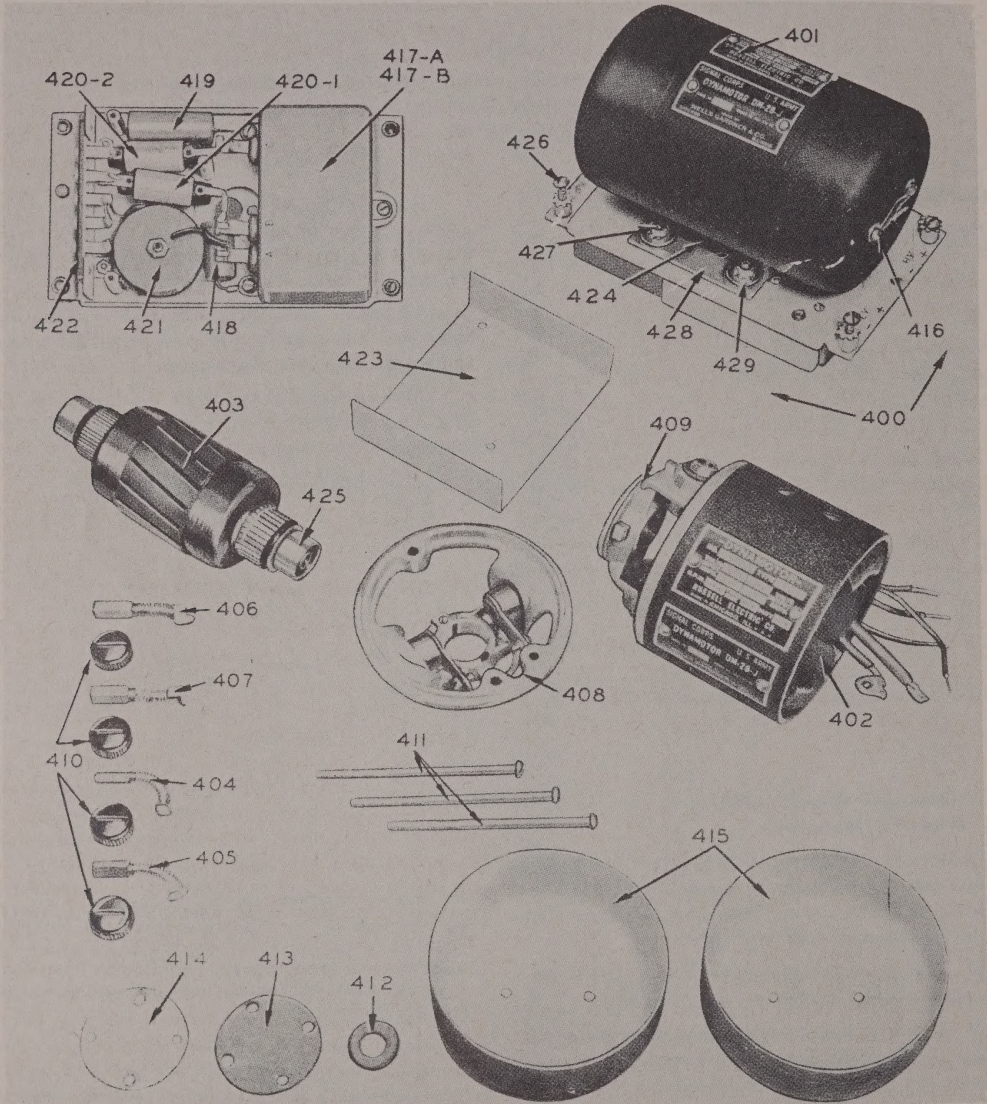

Figure 8 — Dynamotor DM-28-J and Filter
a. REMOVAL FROM CHASSIS.—The dynamotor and filter assembly (Figure 8, reference 400) may be removed easily from the receiver chassis by repeating the following steps in the order given:
(1) Loosen two thumbscrews 299 on the front panel, and remove the chassis from the cabinet.
(2) Loosen the five screws on the dynamotor terminal strip 422, and withdraw the five leads with spade terminals from under them. Retighten the five screws partially in order that they will clear the chassis when the dynamotor is removed.